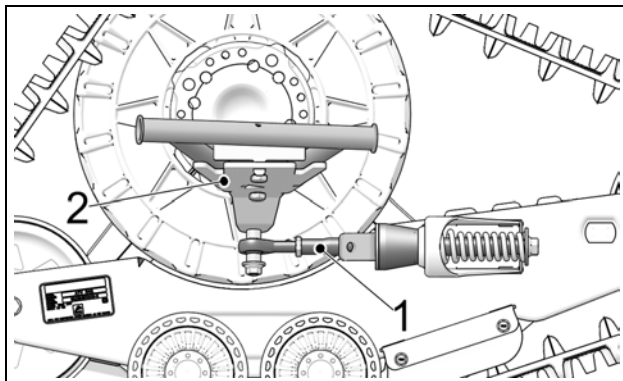

Figure 4
- Stabilizing arm (1) must be attached to front anchor bracket (2) mounted on vehicle. Figure 4.